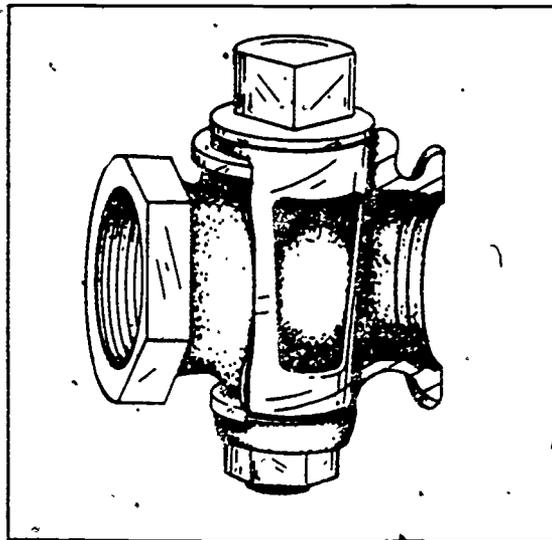

Figure 1-44. Cross section of a plug valve
*Plug valves.* Plug valves have a circular, tapered ground plug fitting which fits into a tapered hole or seat, as shown in figure 1-44. An opening through the plug permits the passage of fluid through the valve when the opening is aligned with the pipeline. Plug valves may be completely and quickly opened by a one-quarter turn of the handle, and do not have soft packing, which tends to wear.